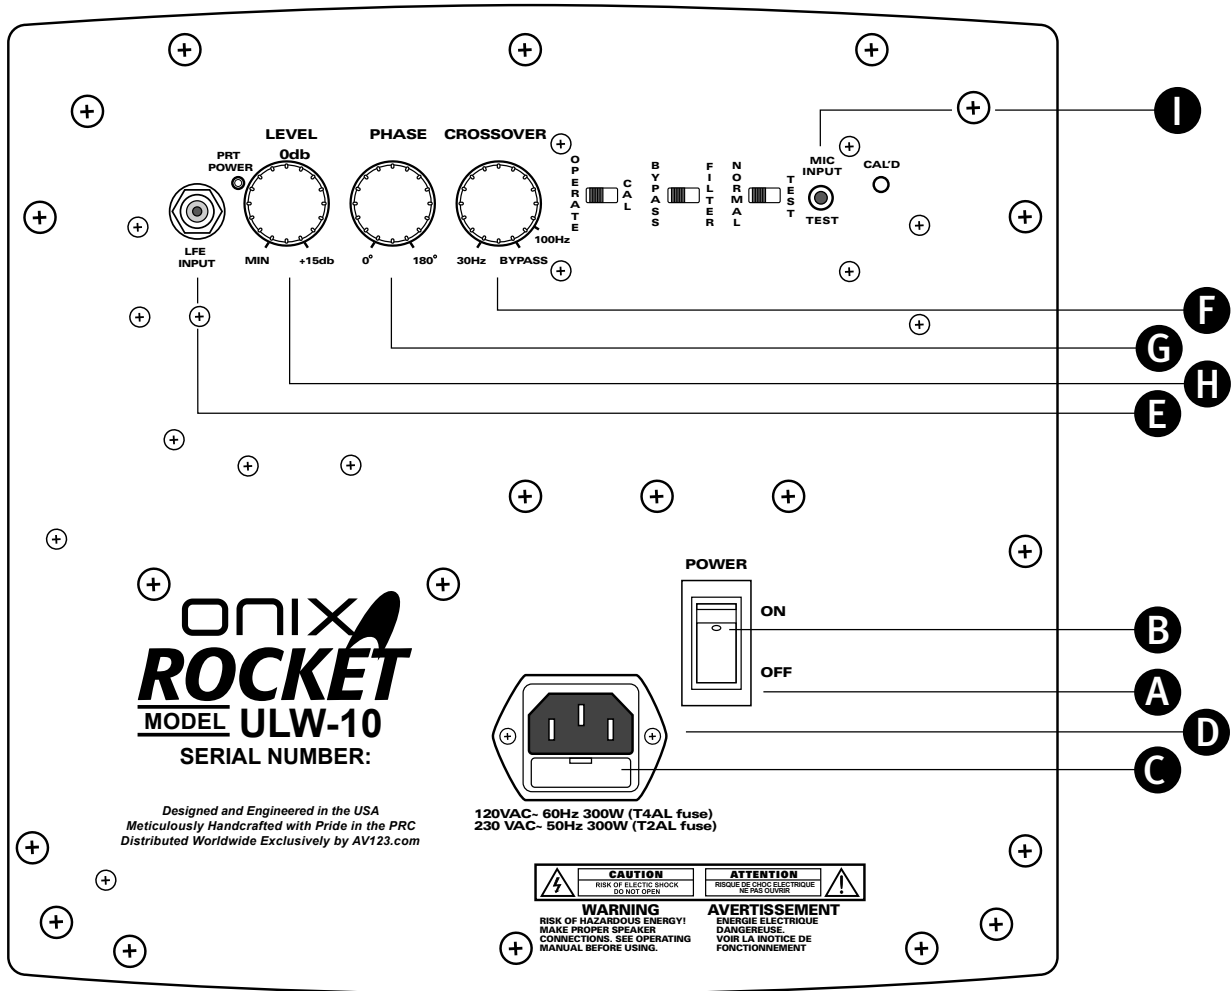

figure 1.1
1.1 Control Panel Features *(see figure 1.1)*
The phase dial (see "1" on figure 1.1) controls the relative phase of the subwoofer to best reinforce the other loudspeakers in your system. Adjustments to this control will change your ULW-10's interaction with the rest of your speaker system, providing the least cancellation, and thus the best response in any room. With SPL meter in hand (or, better yet, on a tripod), play an 80Hz tone (for this exercise the crossover point must be set to 80Hz) and slowly rotate the phase control from 0 towards 180. Watching your SPL meter, find the point that results in the biggest peaks in sound pressure levels (i.e. reads highest on the meter). This setting indicates the least amount of bass wave cancellation, and should be held constant until the subwoofer or other speakers in your room are moved, or placement is altered in any way. With typical front corner placement in most rooms, you may very well find the 0 setting to be optimum.